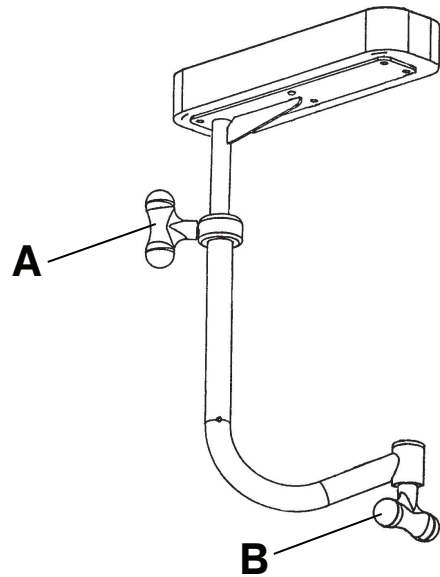

Figure 3 – Adjust the optional wrist rest
1. Turn knob (A) counterclockwise (Figure 3).
3. Turn knob (A) clockwise until the wrist rest is secure.
1. Turn knob (B) counterclockwise (Figure 3).
3. Turn knob (B) clockwise until the wrist rest is secure.